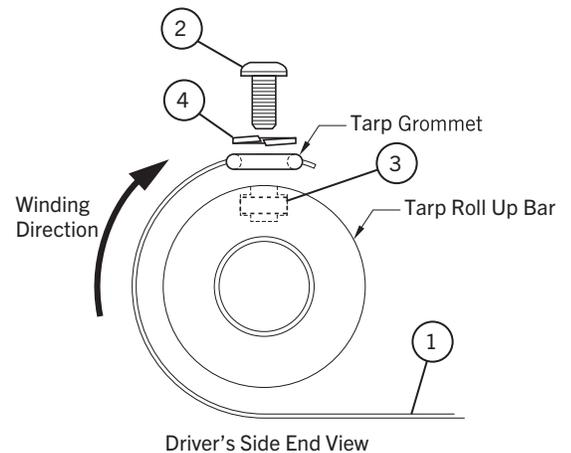

Figure 28-1
- 1) **Figure 28-1.** Pull the loose end of the tarp under the roll up bar, winding from the underside. Make sure the tarp is centered from side to side.